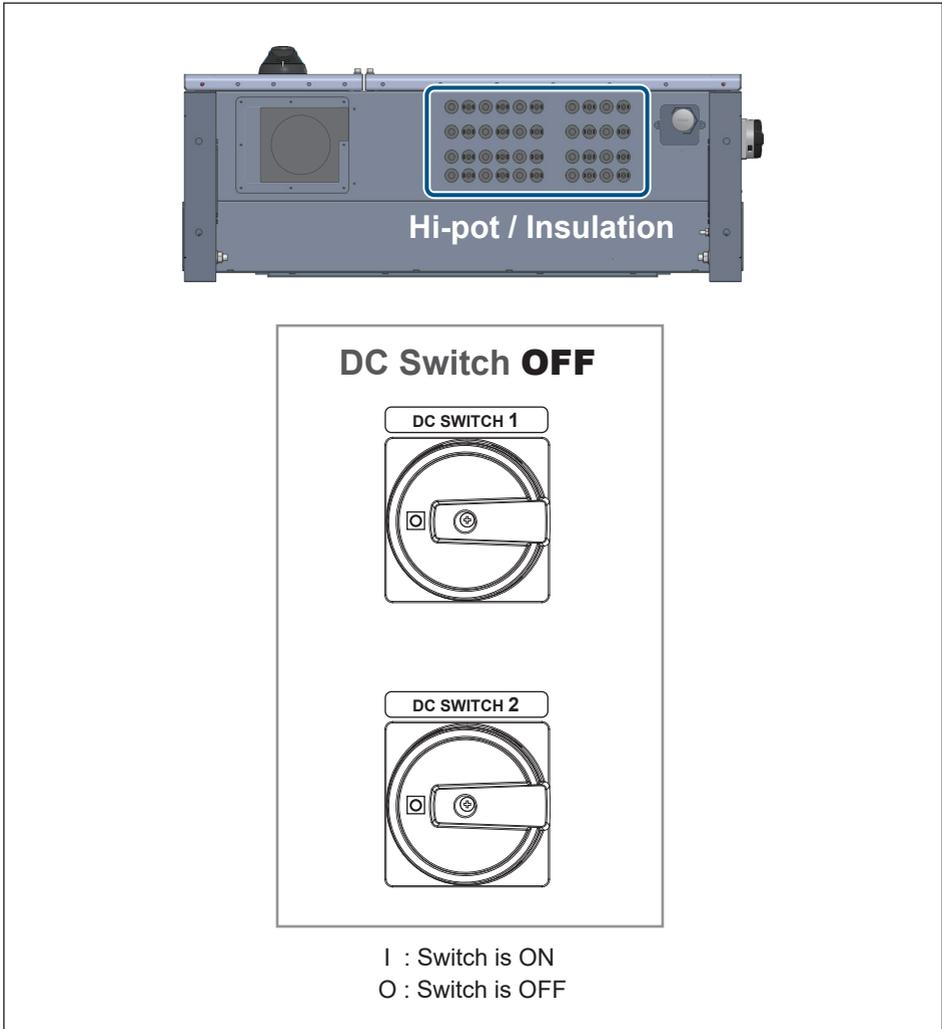

Figure 3-27: Precautions for on-site insulation test
2. Apply one probe to the positions shown in **Figure 3-27**, the other to the ground. It might cause damages to the inverter if probes are applied to inappropriate positions.